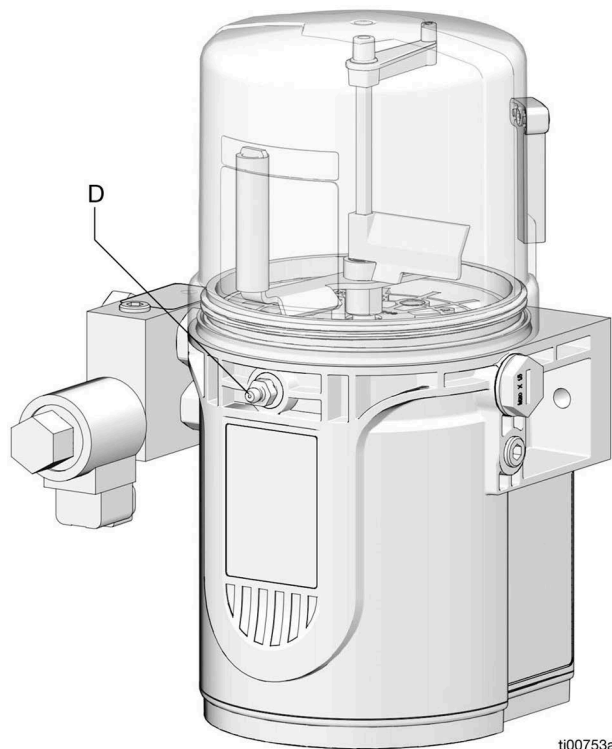

FIG. 8
- Always clean fitting (D) with a clean dry cloth prior to filling the reservoir. Dirt and/or debris can damage pump and/or lubrication system.
1. Connect the fill hose to the Zerk Inlet Fitting (D) (FIG. 8).